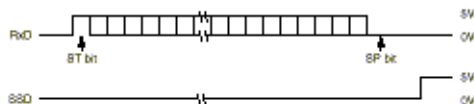

Figure C-3-4
Yes Is the RxD of Q3 as specified in Figure C-3-4?
• Are RxD and SSD of Q3 as specified in Figure C-3-4?